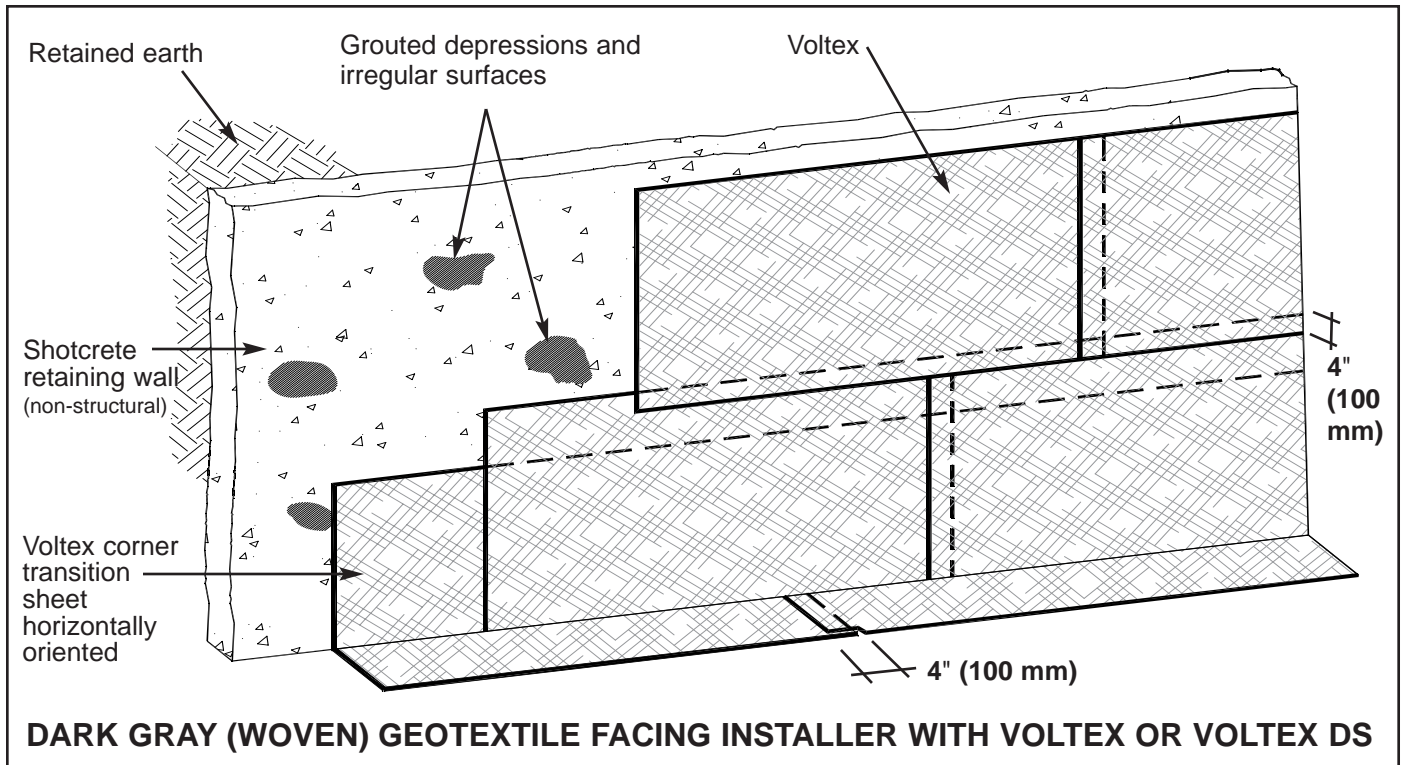

Figure 2.18 - Voltex installation over an earth formed shotcrete retention wall prior to cast-in-place concrete wall.
**Preparation:** The surface of the earth formed diaphragm wall must be sufficiently planar to provide an adequately smooth surface to apply Voltex. Voltex can be applied over large, relatively shallow indentations. The surface should not contain voids or sharp protrusions in excess of 1" (25 mm). Fill all voids with cementitious grout and remove protrusions prior to mounting Voltex (Figure 2.18).